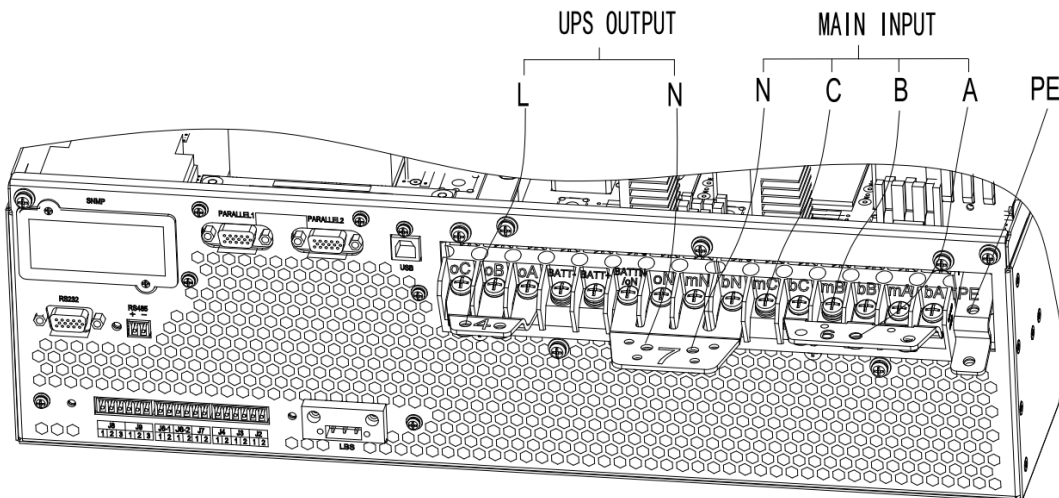

Fig. 3-15 3 phases in 1 phase out, common input
- 2、 Short-circuit mA, bA, bB, bC with No.6 copper bar; Short-circuit BAT-N, oN, bN, mN with No.7 copper bar; Short-circuit oA, oB, oC with No.4 copper bar .As shown in figure 3-15,